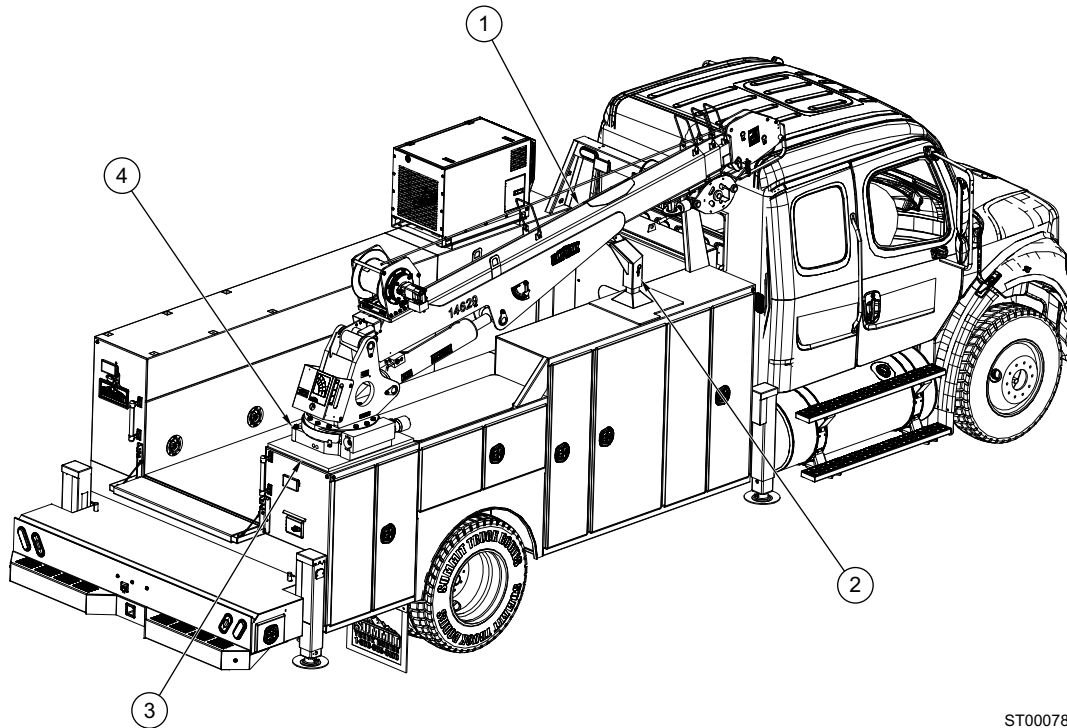

Figure 1-1.
3. Install boom cradle. A boom cradle (Figure 1-1, Item 2) is required on the body to support the crane boom during transportation.
- a. Lower the crane into place with the boom (Figure 1-1, Item 1) facing the rear.
- b. Make sure the crane is resting properly on the base (Figure 1-1, Item 3).
- c. Apply Loctite® thread locker #277 to eight mounting bolts (Figure 1-1, Item 4) and install them from the underside of the base (Figure 1-1, Item 3). Torque the mounting bolts to 680 ft lbs (922 N•m).